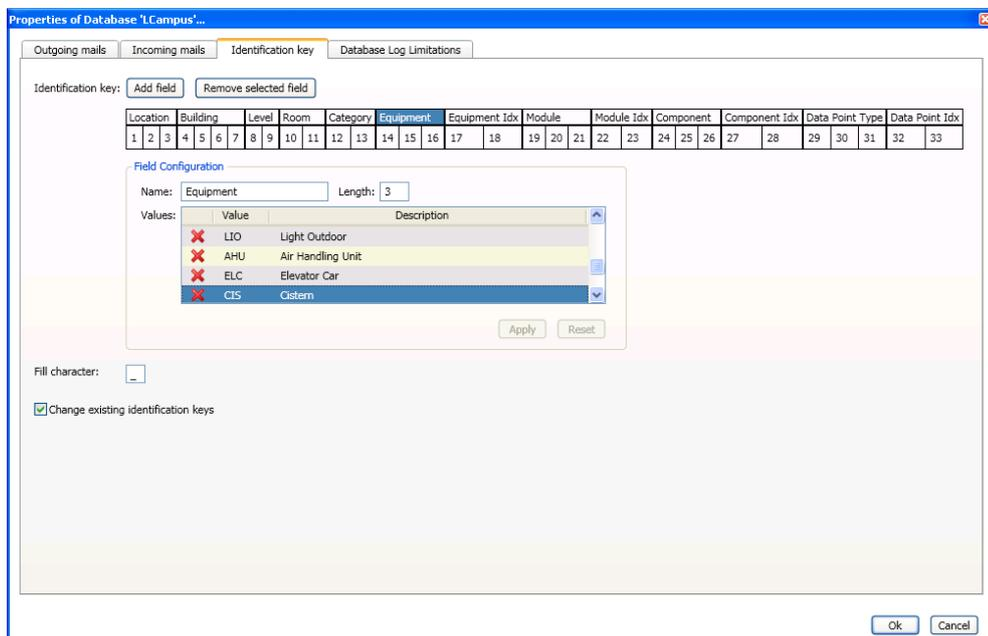

Figure 67: Identification Key Schema
1. Select **Properties** from the context menu of the project node in the navigation view and select the **Identification key** tab (see Figure 67).